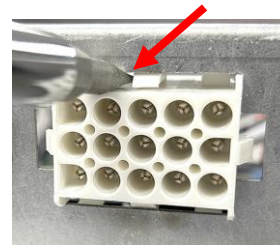

Figure 15
20. Using a screwdriver loosen and push the four (4) center Molex connectors back into the SCB box (see Figures 15 & 16).